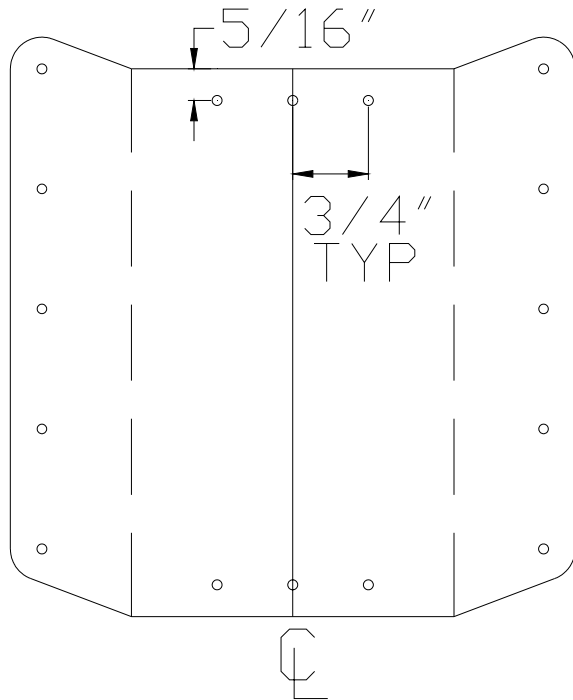

Figure 5.3.8
11) Layout two rivet lines on the RU-405. Figure 5.3.8.